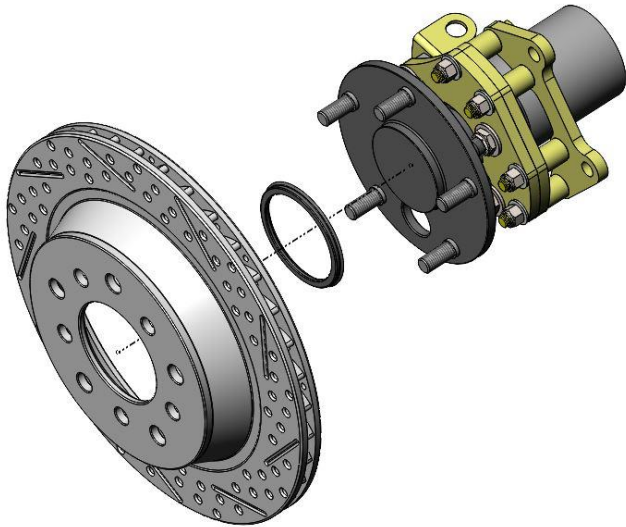
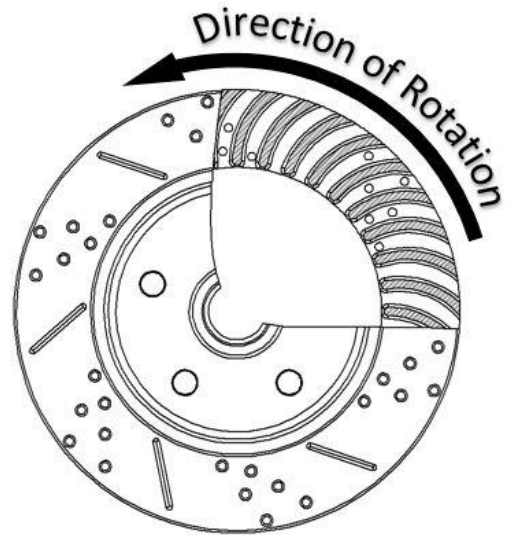

Figure 5a – Rotor and Centering Ring Installation
Figure 5b – Rotor Orientation
8. Install the rotor onto the axle flange. A Centric Ring is provided to center the rotor onto the axle shaft. Place the Centric Ring over the axle hub register. To allow the Centric Ring to go all of the way against the axle shaft flange, it may be necessary to clean the hub register with a wire brush or emery cloth. Once the Centric Ring is in place, slide the rotor over the studs against the axle flange. Verify that the rotor goes all the way against the axle flange. Figure 5a shows the proper sequence. **TIP:** To make caliper installation easier, thread a couple of flatwashers and nuts against the rotor to act as a lug nut and hold everything in place. **IMPORTANT:** If using slotted and drilled rotors, pay close attention to Figure 5b below for proper rotor placement on the driver and passenger side.